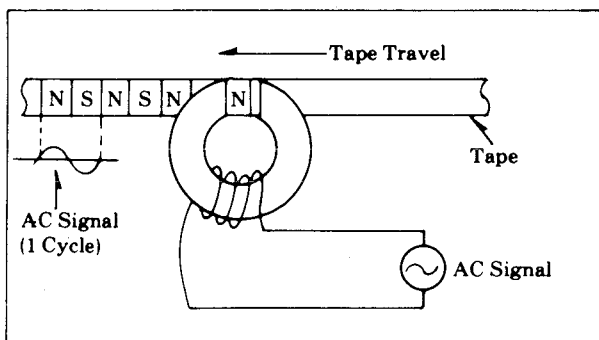

Fig. 2.
The tape will have differently magnetized regions, which can be called North (N) and South (S), according to the AC signal. When the polarity of the AC signal changes, so does the direction of magnetization on the tape, as shown by one cycle on the AC signal (see Fig. 2). If the recorded tape is then moved past a head whose coil is connected to an amplifier, the regions of magnetization on the tape will set up flux across the head gap which will in turn induce a voltage in the coil to be amplified. The output of the amplifier, then is the same as the original AC signal. This is essentially what is done in audio recording, with other methods for improvement like bias and equalization.
As shown in Fig. 2, the tape has North and South magnetic fields which change according to the polarity of the AC signal. What if the frequency of the AC signal were to greatly increase?